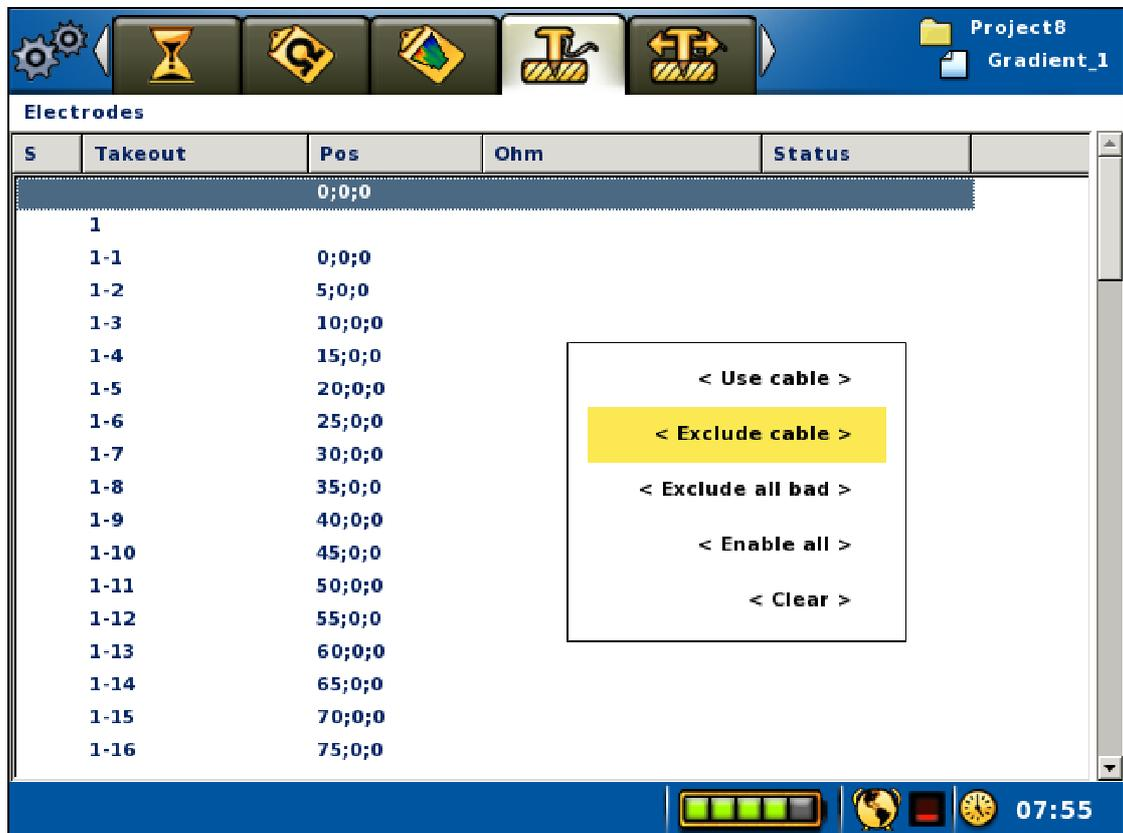

Figure 46 Exclude cable pop-up menu
- Highlight the <Exclude cable> *Menu Item* (Figure 46)